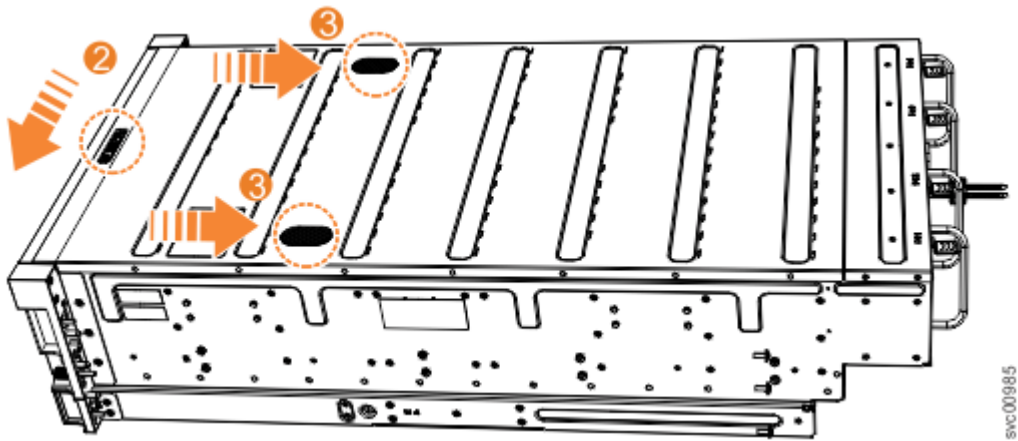

Figure 47. Replacing the 2072-92F top cover
2. Push the cover release lever to the side (2) as shown in Figure 47 on page 63.
3. Slide the cover towards the back of the enclosure (3) back until it stops, as shown in Figure 47 on page 63.